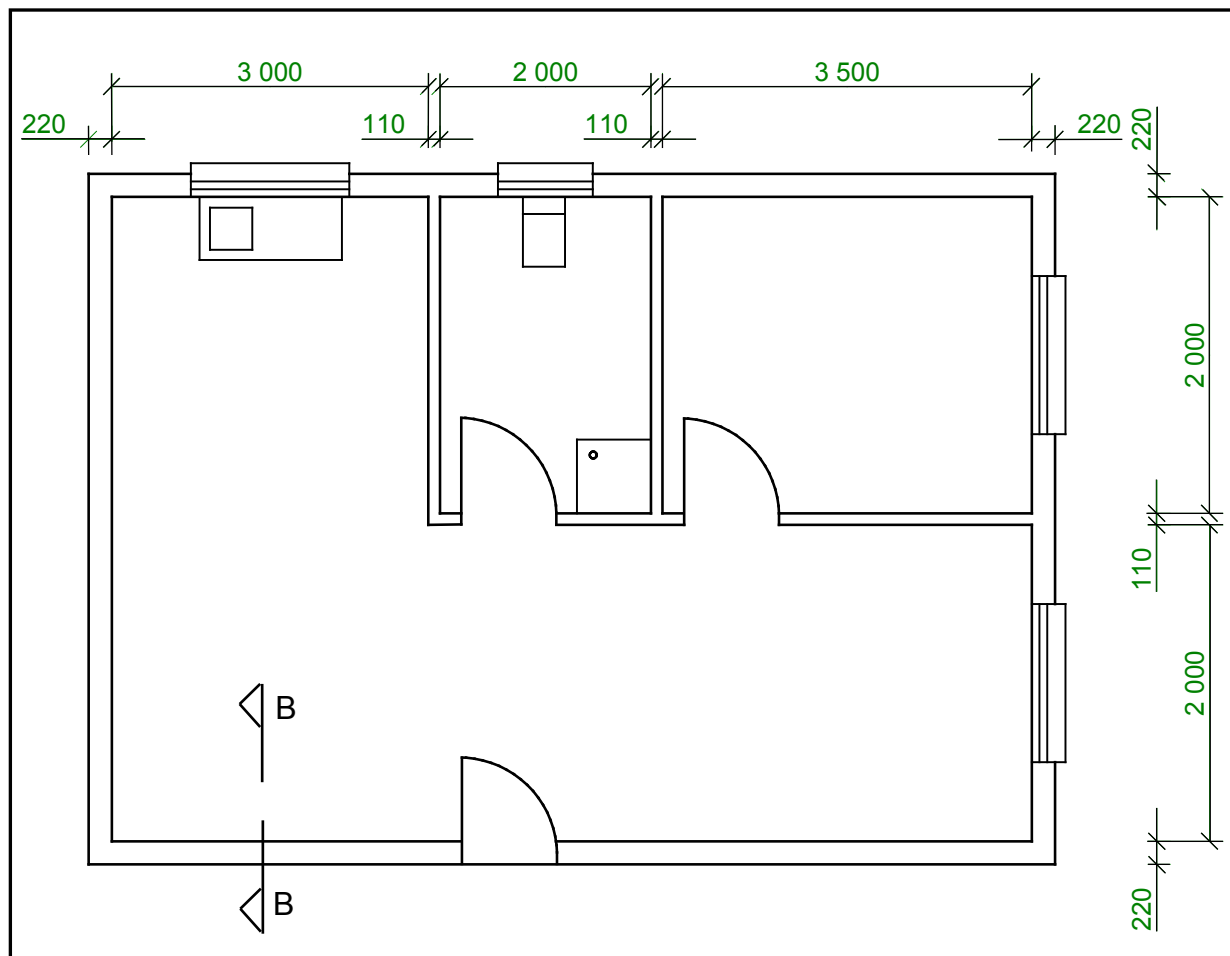

FIGURE 6.2
6.2 FIGURE 6.2 below shows the floor plan of a one-bedroom house.